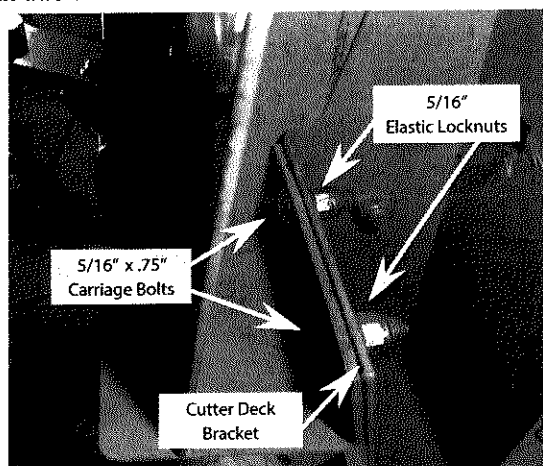

Figure 6
9. Slide the swivel caster support weldment included in the kit over the front of the cutter deck. Align the two holes on both sides of the caster support weldment with the cutter deck bracket on the right and with the cutter deck on the left as shown in Figures 6 and 7. Install two 5/16" x .75" carriage bolts through the swivel caster support weldment on the right side and then through the cutter deck bracket. See Figure 6. Install two 5/16" flange locknuts on the carriage bolts. Do not tighten hardware at this time.